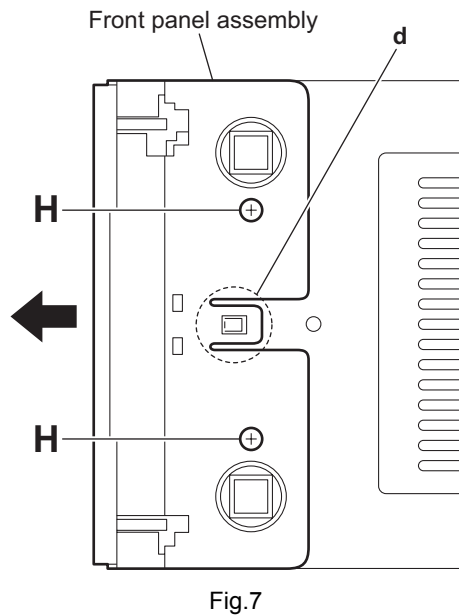

Fig.7
3.1.3 Removing the front panel assembly (See Figs.7 to 9)
- (1) From the bottom side of the main body, remove the two screws **H** attaching the front panel assembly. (See Fig.7.)
- (6) From the bottom and both sides of the main body, release the joints (**d**, **e**) of the front panel assembly and remove the front panel assembly in the direction of the arrow. (See Figs.7 to 9.)